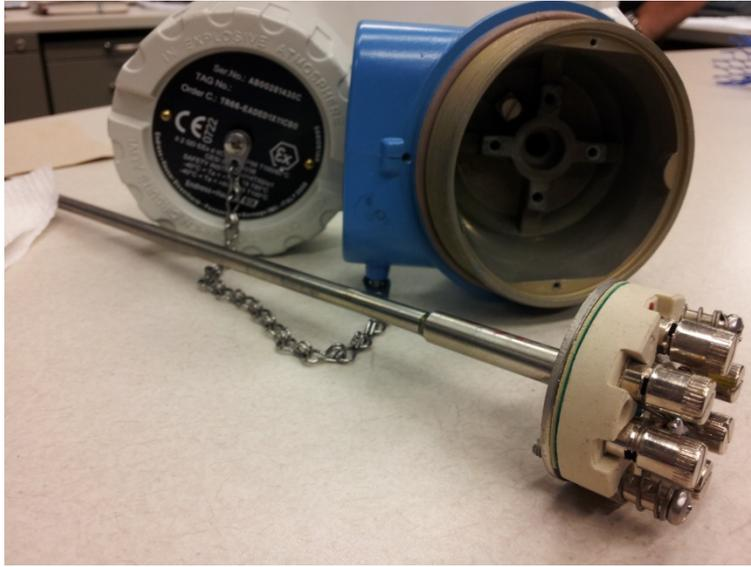

Figure 2-5. Disassembled RTD Terminal Block and Insert
- Carefully remove the RTD terminal block and insert from the thermowell and RTD assembly (Figure 2-5).